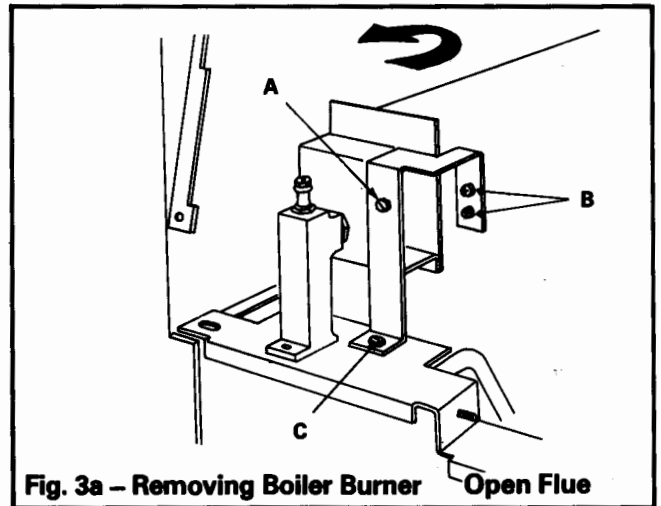

Fig. 3a – Removing Boiler Burner Open Flue
- (To remove Boiler Burner – Fig. 3a). Remove screw **A** securing main burner to pilot support bracket. Remove screws **B** securing pilot bracket and screw **C** securing support bracket to base and remove pilot support bracket. Carefully remove burner from the combustion chamber.